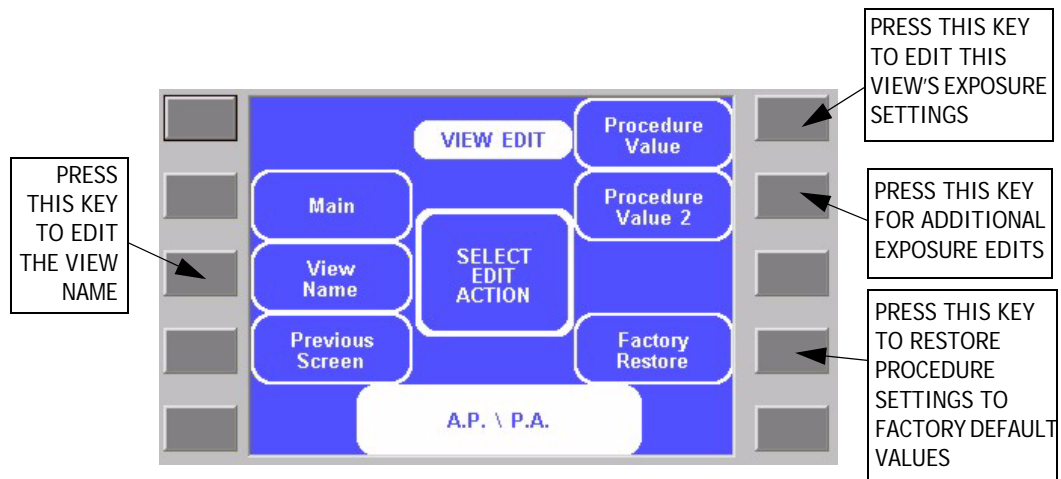

Figure 4-6. APR View Edit Screen
1. To edit the name of the view ("SKULL" in the example shown in Figure 4-6), press the key adjacent to the **Region Name** field (if you do not want to edit the region name, skip to step 4). The APR Region (or View) Name Edit screen appears:
- a. Access the APR Region Edit screen as described previously (see Figure 4-6).